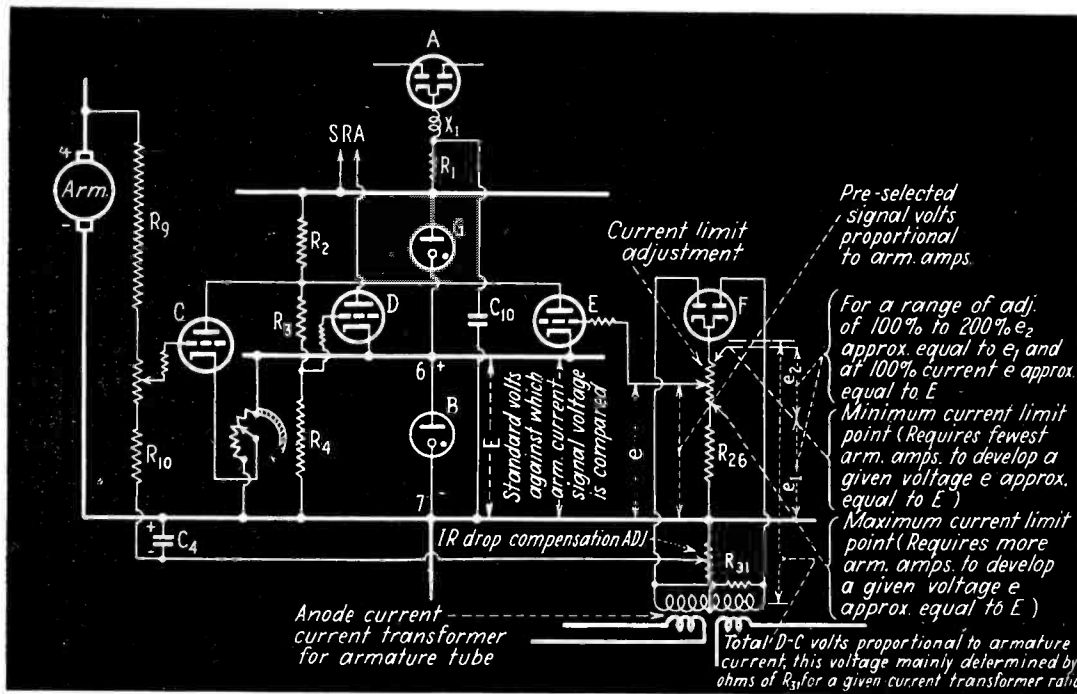

FIG. 4—Current limiter added to armature voltage control
compensation, this same voltage source can be used for armature current-limit control. In Fig. 4 is shown the method by which current limit is added to the armature control circuit. To make the current limit inoperative until a certain value of armature current is reached, a preselected portion, e , of the d-c volts - proportional - to - armature - current signal is compared against the voltage standard, E , of tube B . Then, the voltage difference between the signal voltage and the standard voltage is "sensed" (signal less than standard, equal to standard, or greater than standard) by the grid action of tube E and amplified by this same triode. Finally, the amplified signal is superimposed on the armature voltage control triode, tube C , by connecting the anode of tube E to the anode of tube C . Whichever of tubes C or E "works the hardest" controls the shutting-off action on tube D which controls the armature
In the circuit of Fig. 4, the cathode of tube E is connected to the positive end of voltage standard tube B , and the negative terminal of tube B is common to the negative end of the d-c voltage signal of volts - proportional - to - armature - current, and the positive end of this d-c signal voltage is connected to the grid of tube E . Whenever the d-c volts-proportional-to-armature-current is less than the voltage of tube B , the grid of tube E will be very much negative relative to its cathode and tube E will be non-conducting and inoperative. Limitation of current to 150 percent rated armature current requires that, at 150 percent armature current, the signal voltage e , of d-c volts-proportional-to-armature-current, must be preselected to be approximately equal to the 75 volts drop, E , across regulator tube B . As this chosen value of armature current is reached, and hence as the d-c signal voltage, e , approaches 75 volts, a point will be reached when the grid of tube E will be sufficiently less negative that tube E begins to conduct current through resistor R_2 . This is the same resistor through which the armature voltage control triode, tube C , conducts current to control tube D , so that additional current through R_2 via tube E has the same effect as though tube C conducted more current, i.e., it makes tube D less conducting, which desaturates the saturable reactor of the armature thyatron and retards grid phase so as to reduce the armature voltage and current. Thus, the tube (C or E) which determines the controlling current through R_2 also governs the degree of saturation of the armature saturable reactor, SRA . The two controls, armature voltage vs armature current limit, are only additive in the sense that, in a very small region of overlapping functions, tube C gradually gives up what tube E takes over; this because tube C is operative most of the time and tube E takes over only after the armature current has increased to the preselected value. Of the two control signals, voltage vs current, only that which is dominant does the controlling. Also, the armature voltage control triode, tube C , cannot take control away from the current limit triode, tube E , until the armature current has dropped below cur-
The circuit of Fig. 5 shows how armature current limit is applied to the field-voltage-control. The general scheme is similar to the armature current limit control of Fig. 4 in that the d-c voltage-proportional-to-armature-current is compared against a reference voltage and the difference voltage is applied to tube *EE* which acts on the saturating circuit of the saturable reactor of the field thyatron. However, in this instance of field weakening control there are two distinct differences in the action of tube *EE* compared to tube *E*: (1) an increase in armature current beyond a predetermined amount must increase the field strength by saturating the saturable reactor of the field thyatron (whereas with armature voltage control an increase in armature current necessitated a decrease in saturation of the reactor of the armature thyatron); and (2) the reference voltage against which the signal of d-c volts-proportional-to-armature-current is compared is not the constant voltage, *E*, of regulator tube *B* but rather is the slightly variable voltage, *e*, between the grid of tube *DD* and the negative bus, which voltage is in itself referred to the standard voltage, *E*, of tube *B*. In Fig. 6 are compared the current limit controls as applied to armature voltage and field voltage control circuits.